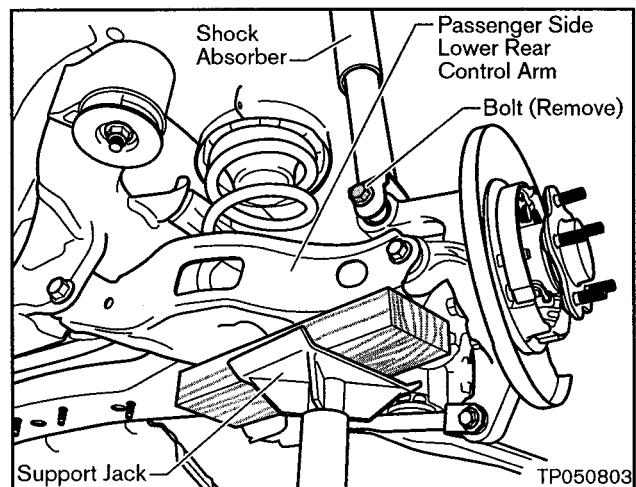

Figure A14
8. Support the lower rear control arm and remove the shock absorber lower mounting Bolt (see Figure A14). Do this procedure on both sides.